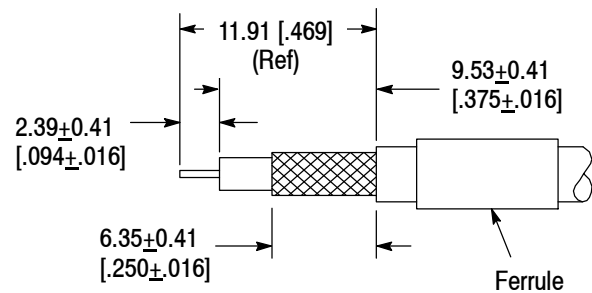

Figure 2
1. Slide ferrule onto unstripped cable; then strip cable using the appropriate dimensions provided in Figure 2. Do NOT nick or cut cable braid. Center conductor must be straight and free of burrs.
- Deleted obsolete information in Figure 2